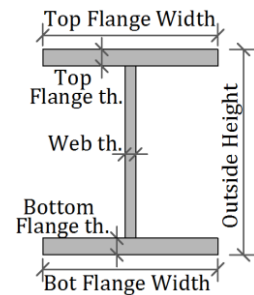

Figure 3-9, I/Wide Flange Sec.
- Outside Height	All parameters of I/Wide Flange section are the same as I-shaped section except that dimensions of each flange can be defined, separately (Figure 3-9).